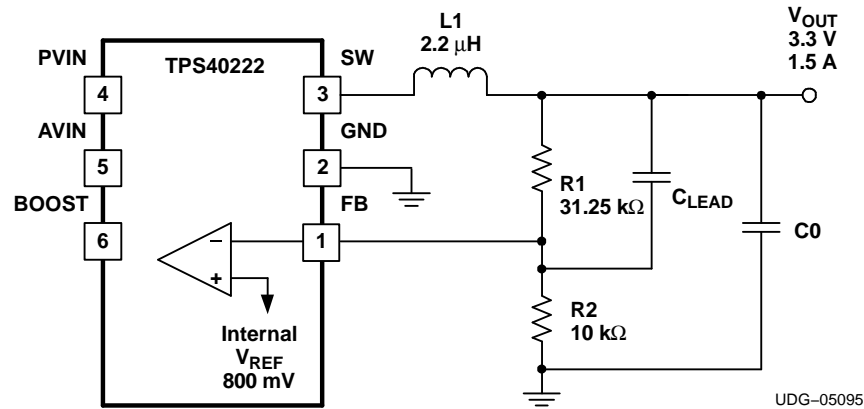

Figure 10. Output Stage
Since the loop compensation is internally fixed and cannot be changed, loop stability can only be controlled by the proper choice of output inductance and capacitance. Table 2 provides a shortcut guide to this selection and recommended capacitance to maintain a safe 50 degrees of phase margin for various inductors and output voltages. The table also shows the minimum capacitance for 50 degrees of phase margin at three temperatures, with the worst case for stability at -40°C. The granularity of the table is sufficient so the user can interpolate between values to find a specific operating condition. The table values assume a full load, which is also the worst case for phase compensation. As an example of using the table, consider a 2.5-V output converter with a 2.2-μH inductor. The table shows that a minimum of 15-μF of output capacitance is required to guarantee greater than 50 degree of phase margin at the worst case temperature of -40°C. With a lead capacitor (CLEAD) added to the feedback as shown in Figure 10, this minimum capacitance increases to 26-μF and the closed-loop frequency increases by about 20%.
(1) See Figure 10.
(2) For VOUT > 3.3 V use an inductor with a value greater than or equal to 2.2 μH.
In most applications, the user starts with a known output voltage and current load requirement as shown in Figure 10.
As shown in Figure 10, the trimmed reference voltage is internally connected to the error amplifier. Since the input bias current to this error amplifier is negligible. The feedback resistors R1 and R2 can be selected over a broad range limited by the low bias current into the error amplifier. With this restriction in mind, R2 was selected at 10 kΩ, so its current is 80 μA and large relative to the bias current of the error amplifier. The output voltage is then given by Equation 4.